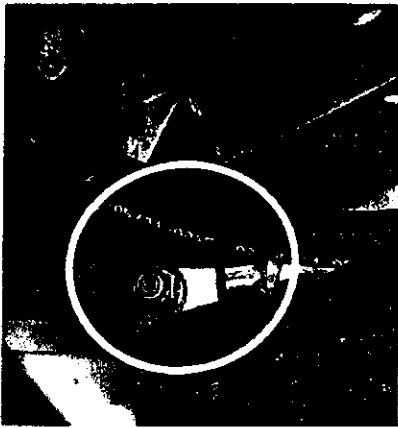

Figure 3: Threaded stud of ground wiring harness
4. Detach the SBC hydraulic unit ground line at the threaded stud (Figure 3).